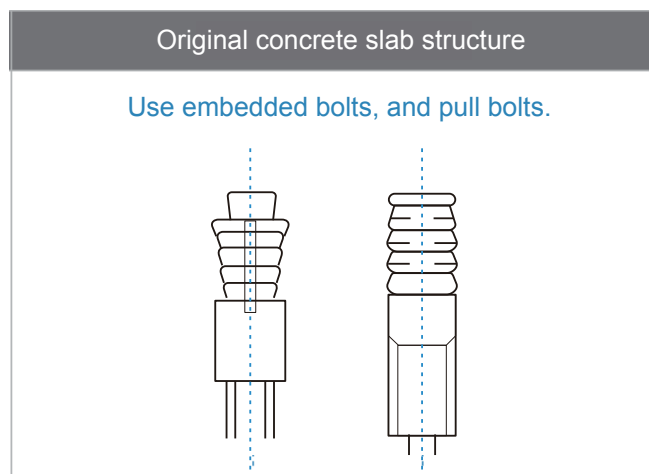

Figure 3.2
- Determine the location on the ceiling of the room or building roof for mounting, and drill four  $\Phi 12$  mm X 50-55 mm holes. Then embed and set up the expansion hook anchors (purchased accessory 4) in these holes. See Figure 3.2.